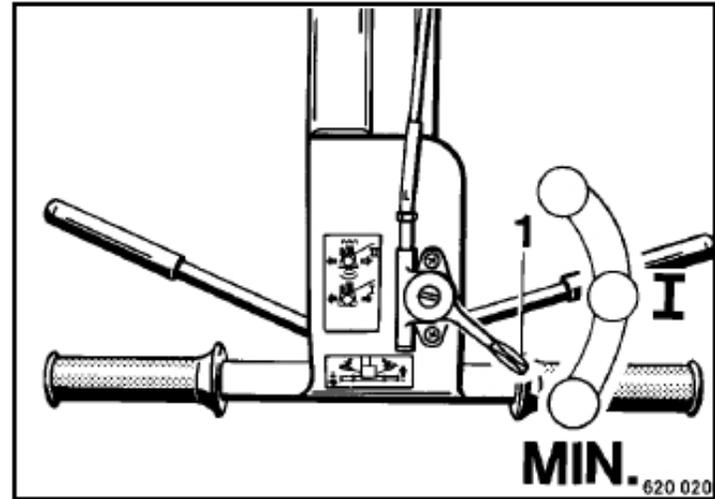

Fig. 17
- 1 Set the throttle lever 1 (Fig. 17) to position "I" or "MIN". The vibration stops after a short time.